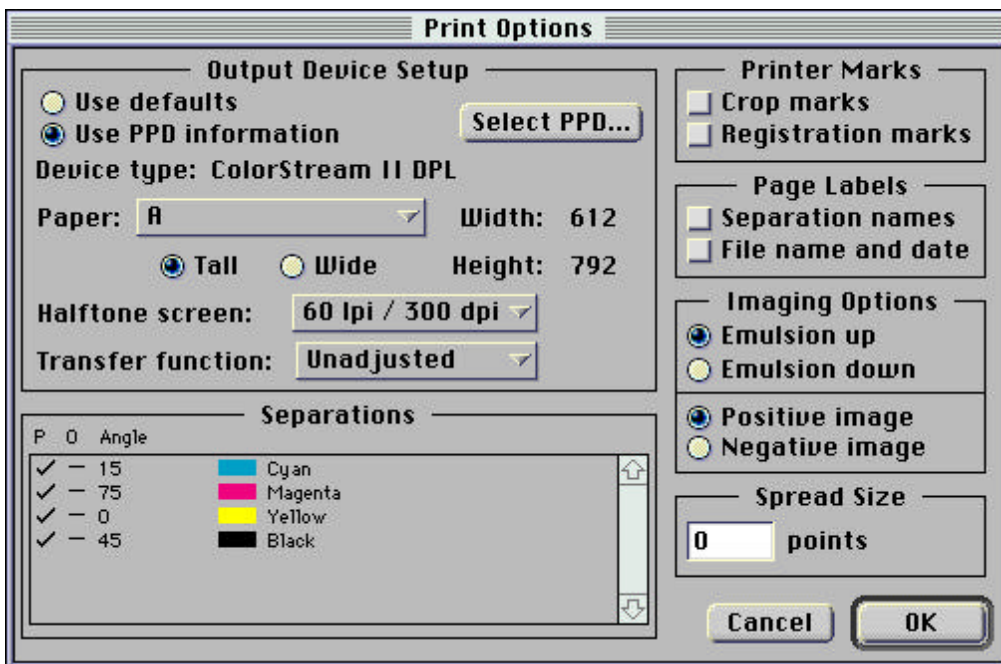

Figure 4-22 Macromedia Freehand 5.5 Print Options Window for Freehand-specific Settings
**10. Click on the Print button in the lower left of the Print window to change the settings shown in Figure 4-22:**